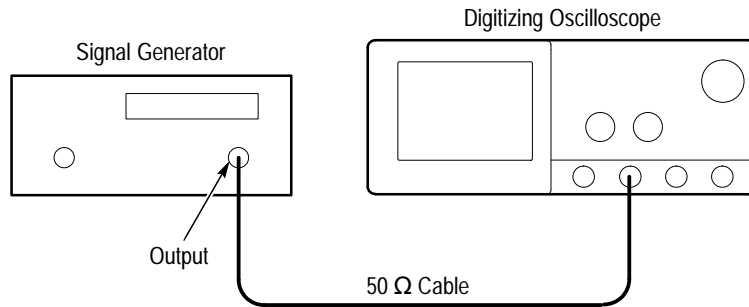

Figure 1-30: 60 Hz Rejection Test Hookup
- Connect the output of the SG 502 to the CH2 input through a 50 Ω cable. See Figure 1-30.